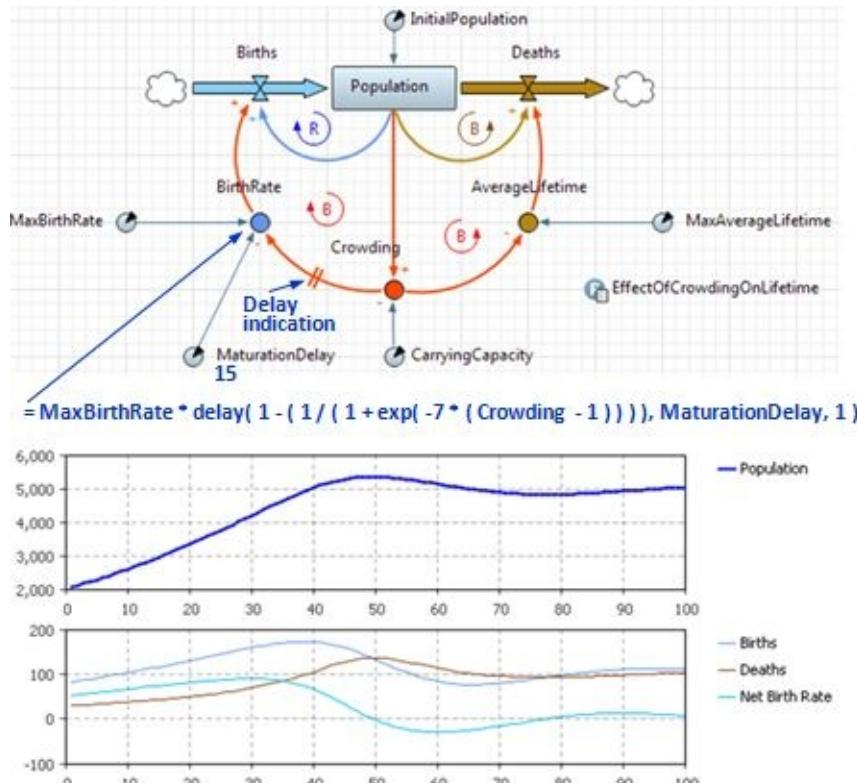

Figure 5.20 Delay in the negative feedback causes oscillation
2. Modify the formula of the *BirthRate*, as shown in Figure 5.20.
"Time delays in the negative loops lead to the possibility that the state of the system will overshoot and oscillate around the carrying capacity" (Sterman, 2000), which we observe in our model (Figure 5.20).